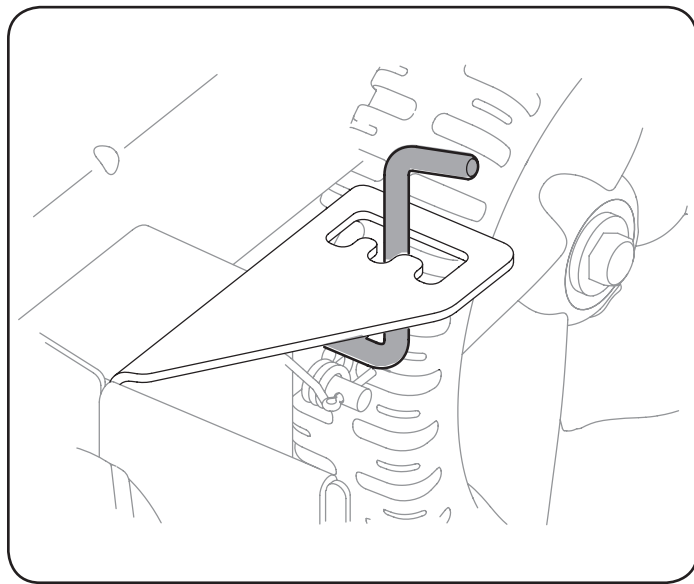

Figure 6
1. The angle of the edger blade can be adjusted by placing the bevel adjustment lever in one of three positions for edging. See Figure 6.